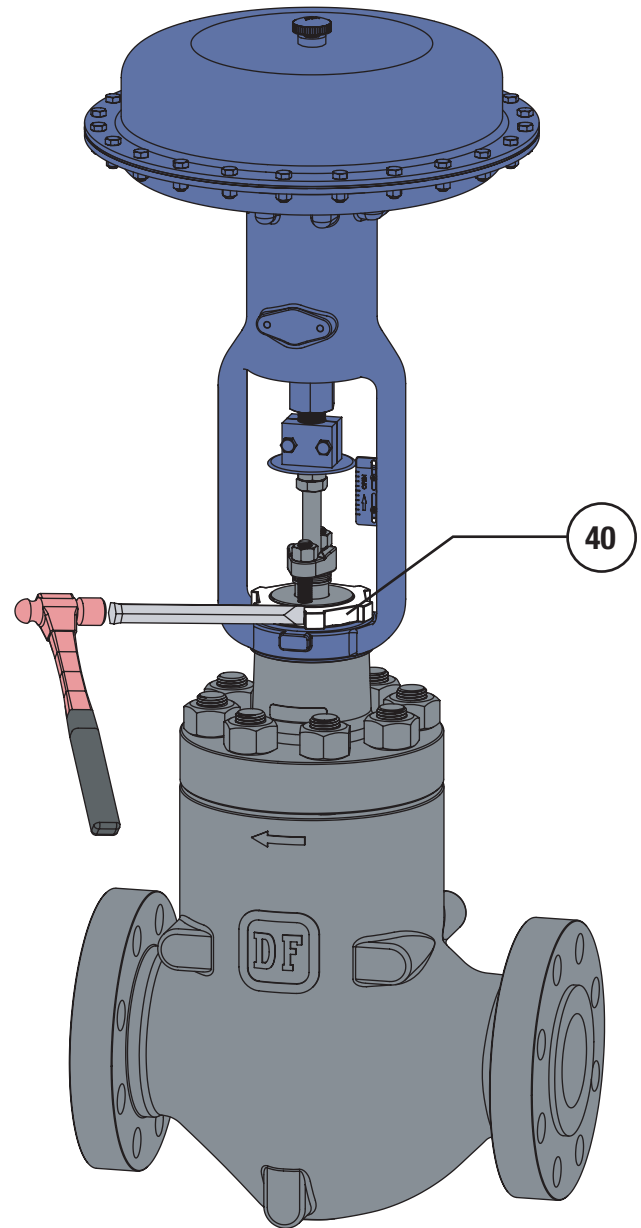

Figure 4 Yoke Nut Loosening Technique
- 6 Use a blunted heavy chisel to loosen the yoke nut (Key 40). Unscrew the yoke nut and remove the actuator from the valve. If the actuator was energized during removal, de-energize the actuator (Refer to Figure 4).